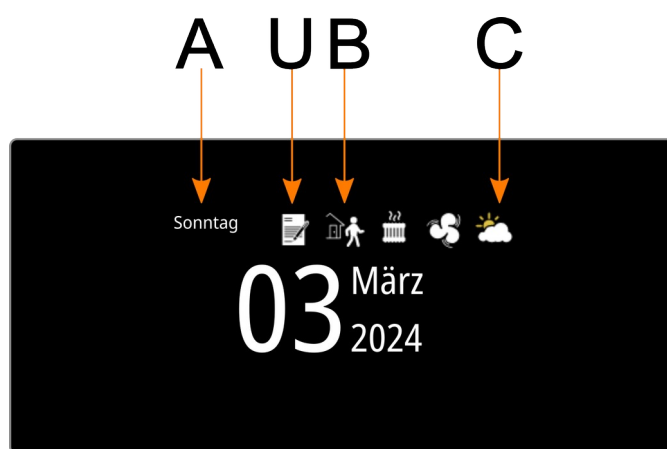

Figure 21: Premium display icons and info text
As shown in figure 21, the operating mode of the controller is shown in the middle (B). Next to it is the output of the control variable or the 2-point controller, followed by the output of the fan control. (C) visualizes the weather info. The text (A) is partly context-related and is generated automatically depending on the language setting. The icon (U) can be set by the user via CO 10. The assignment of the CO values to the icon can be found on the following pages 42.